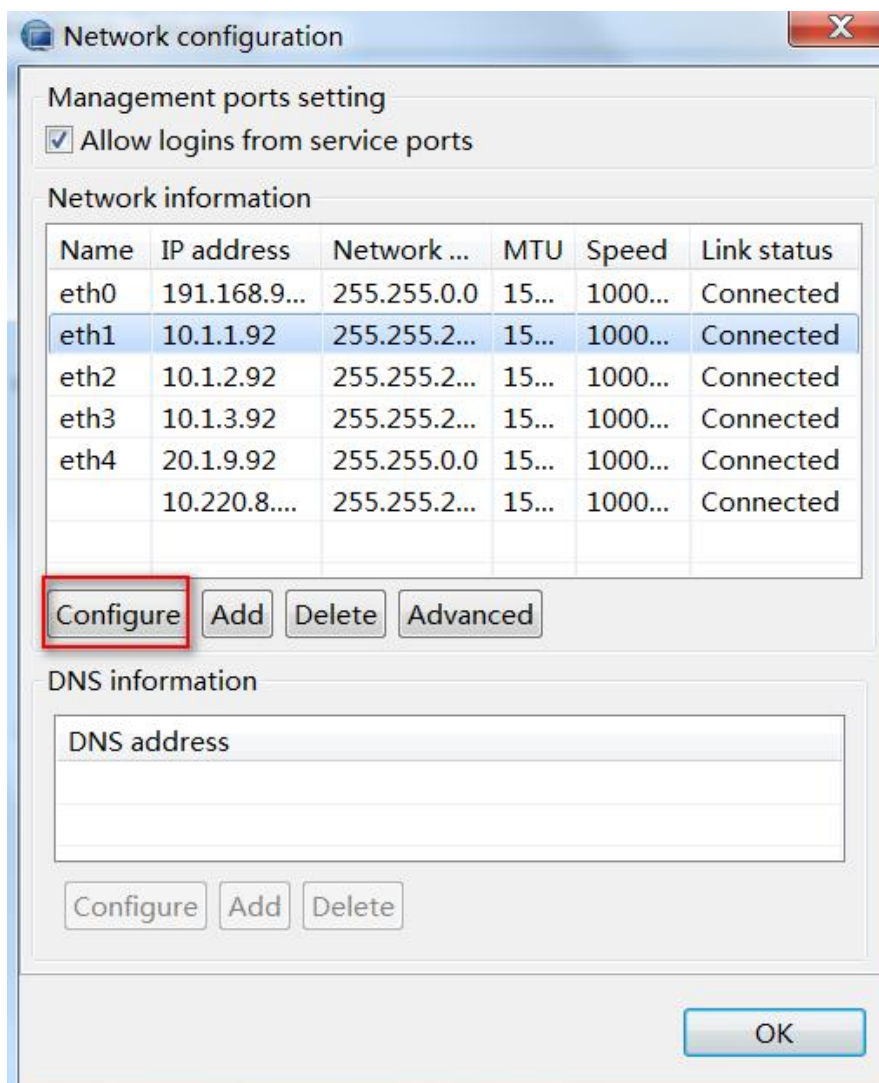

Figure 10-4 Selecting the port
(2) Select **[Server Maintenance > Network Configuration]**, select the port and click the **[Configure]** button, as shown in the Figure 10-4: